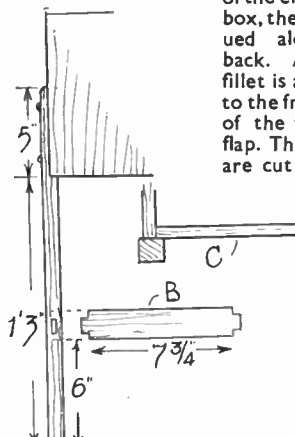

Fig. 3—Legs and rail fixings
For the legs, prepare 4 strips of wood $\frac{7}{8}$ in. square and 2 ft. long. Reduce the tops of each leg to half thickness for a length of 5 in. down, as at Fig. 3. From the bottom, at the distance up shown, chisel out a mortise, $\frac{1}{2}$ in. wide and 1 in. long, from each leg, to receive the side cross rails (B). These will be, of course, cut on the inside surface of each pair of legs, as will be seen in the drawing, which shows, also, how the legs are subsequently screwed to the box.